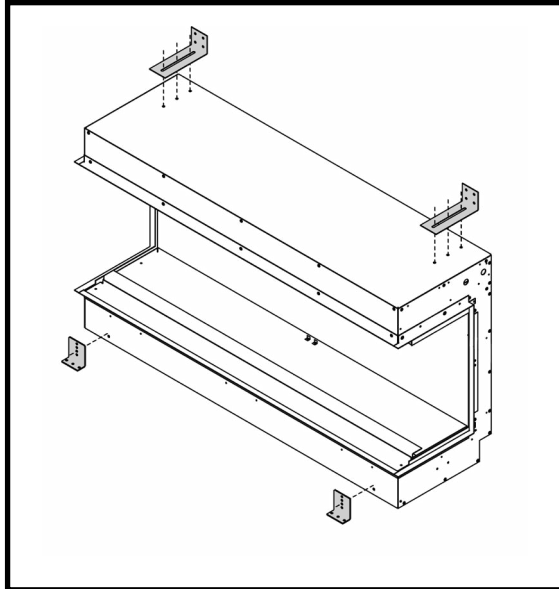
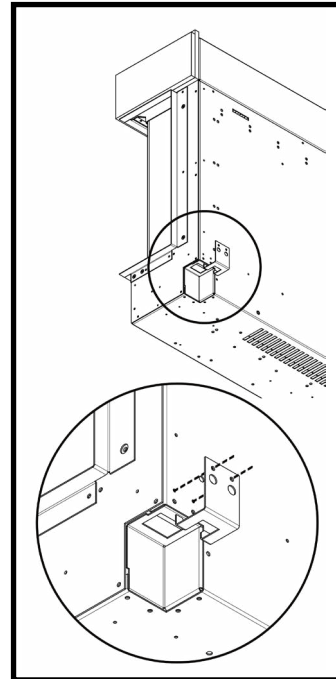

Fig 1.
Fig 2.
1. Remove the bottom 4 transit brackets, then screw on the top mounted brackets (**Fig 1**). Once this has been completed, screw in the IEC Clip on the back right (**Fig 2**).